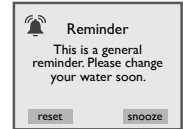

Figure 15.0f
25. **Water Refresh Reminder:** This message will appear when the "Water Refresh" timer has expired (Figure 15.0f). The water needs to be drained and refilled with fresh water.